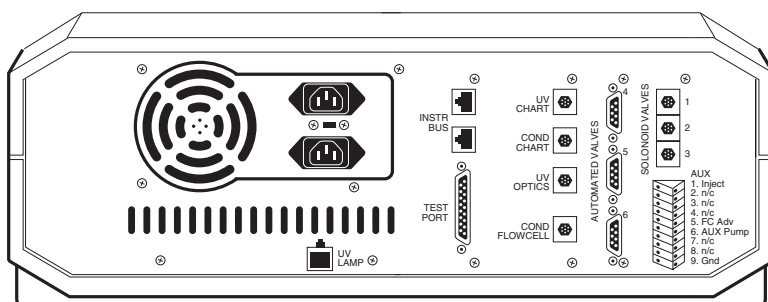

Fig. 7. Rear panel of BioLogic workstation and AUX connector.
2. Connect the EP-1 Econo pump to the BioLogic DuoFlow workstation using System Cable 7 (mini-DIN to breakout, catalog number 731-8267). Plug the mini-DIN end of System Cable 7 into the Econo pump rear connector labeled AUX. On the back of the BioLogic DuoFlow workstation, connect the red wire to the auxiliary connector 6 (AUX Pump) and connect the blue wire to the auxiliary connector 9 (GND) (Figure 7).